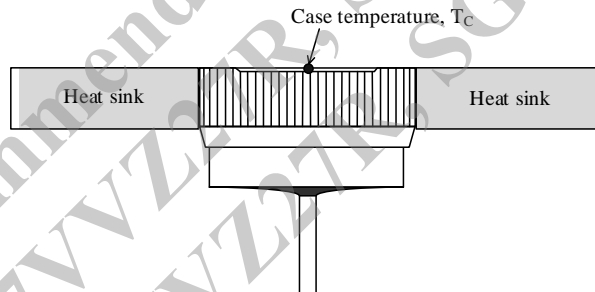

Figure 1. Lead Temperature Measurement Conditions
(1)  $R_{th(j-c)}$  is thermal resistance between junction and case. Case temperature is measured as shown in Figure 1.
(2) See Figure 1 for the measurement conditions of lead temperature.
(3) See Figure 1 for measurement conditions of lead temperature.
(4) See Figure 1 for measurement conditions of lead temperature.
(5) See Figure 1 for the measurement conditions of lead temperature.
(6) See Figure 1 for the measurement conditions of lead temperature.
(7) See Figure 1 for the measurement conditions of lead temperature.
(8) See Figure 1 for the measurement conditions of lead temperature.
(9) See Figure 1 for the measurement conditions of lead temperature.